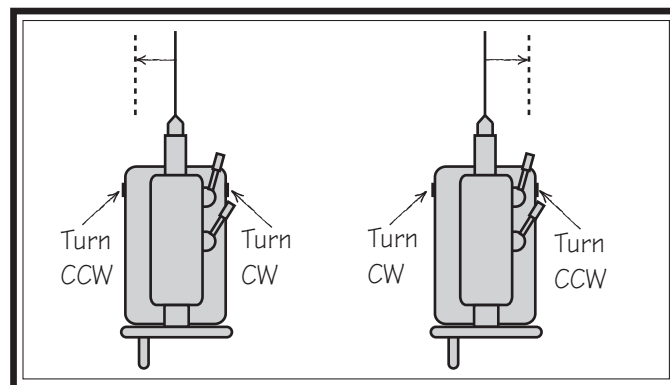

Figure 43. Set screw adjustment in relation to tailstock movement.
2. Rotate the adjustment set screws in opposite directions for the desired offset (see the illustration in **Figure 43**).